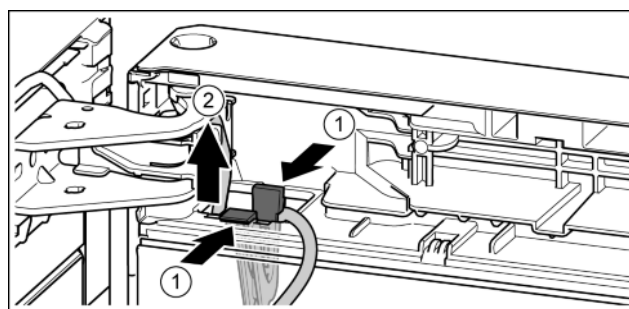

Fig. 19
- Press the tab. Fig. 19 (1)
- Remove the cable holder with its cable. Fig. 19 (2)